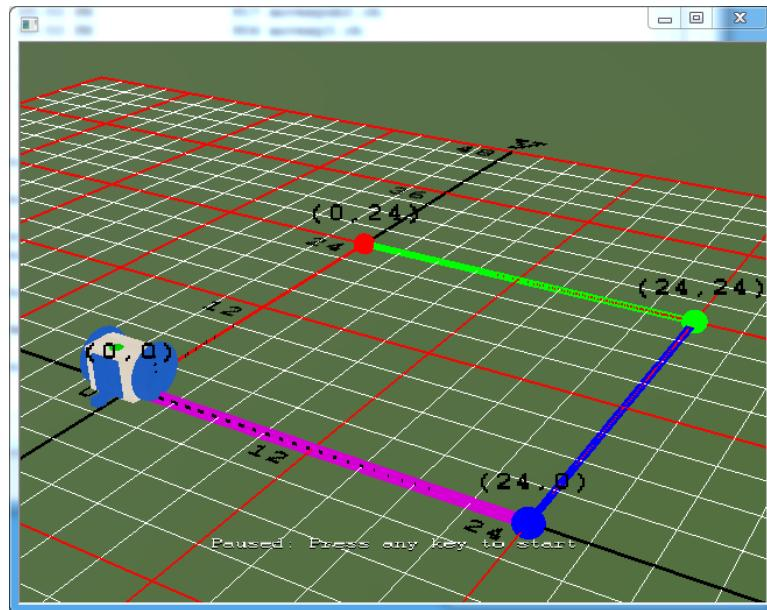

Figure 10.22: The RoboSim scene with an obstacle course by the program `pointlinetext2.ch`
1. Write a program `pointlinetext2.ch`, based on Program 10.8, to draw an obstacle course as shown in Figure 10.22. The size for points in the obstacle course is 2. The line widths for the red, green, blue, and purple color are 1, 2, 3, and 4, respectively.
3. Write a program `obstaclecourse2.ch` to drive a robot following the obstacle course as shown in Figure 10.22.